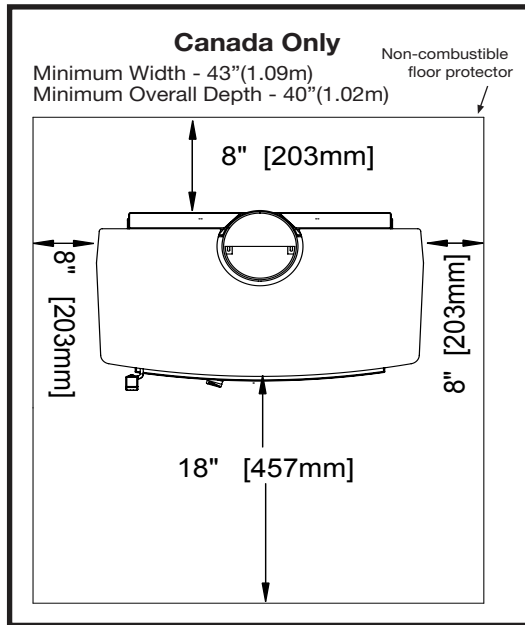

Figure 9: Ember protector for Canada.
1. Position stove and floor protection with hole for combustion air in accordance with the clearances as stated on the label and in Figure 9 and 10.
In Canada: 18" (457 mm) on the firing side and 8" (203 mm) to the other sides - See Figure 9.